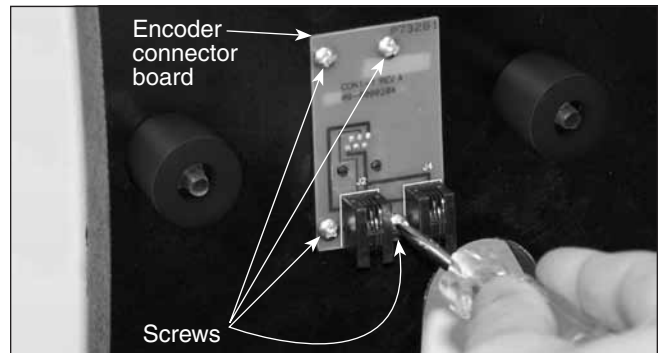

Figure 6. Attaching the encoder connector board.
12. Attach the encoder connector board to the side panel. Place the board against the side panel so that the modular jack fits into the square-shaped hole and thread four encoder board mounting screws through the connector board and into the predrilled holes in the side panel until tight (**Figure 6**).